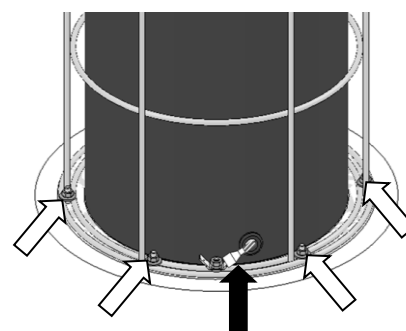

Fig. 3
- ⇒ Unplug the ground wire from the cage. (Fig. 3 *black arrow*)
- ⇒ Unscrew the six(6) nuts on the South Pole Plate inside the envelope. (Fig. 3 *white arrows*)